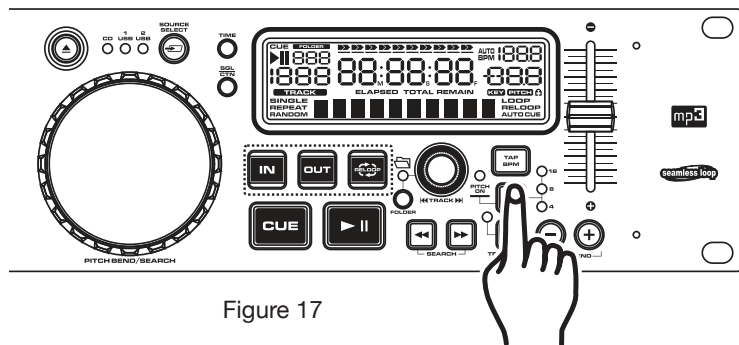

Figure 17
You may choose a pitch operating range at any time. To change the operating range be sure the pitch function is turned on, see figure 17. The pitch percentage can be changed between $\pm 4\%$, $\pm 8\%$, $\pm 16\%$, and 100%. 4% will allow the least amount of pitch manipulation and 100% will allow the most amount of pitch manipulation. To adjust the different values, press the *PITCH ON/OFF BUTTON* (10) and Tap on the *% BUTTON* (10) until your desired value is reached. The L.E.D. of the *% BUTTON* (10); glowing yellow for 4%, glowing green for 8%, or glowing red for 16%, and all LEDs glowing for 100%.